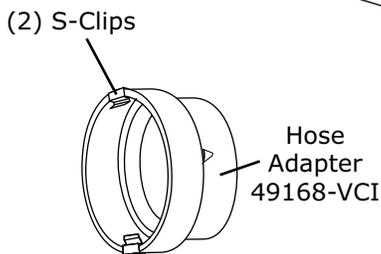

Figure 3a
1. Install (2) S-clips onto driver and passenger side hose adapters (See Figure 3a, below).